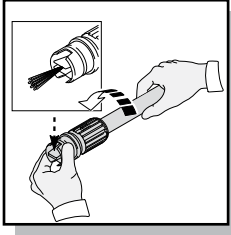

Fig. 21
- Use the adjustable spray lance when cleaning windows. Be sure to adjust the nozzle to a wide fan spray pattern and place the nozzle approximately four to five feet away from the window with the nozzle at forty five degree angle. Squeeze the trigger and vary the fan spray pattern and angle until optimum cleaning efficiency is achieved (Fig. 21).